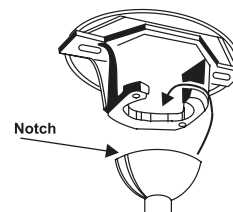

Figure 7
**Step 6.** Lift motor/housing assembly and place hanging ball onto hanger bracket. Rotate until the check groove has dropped into the notch of the hanging ball and seats firmly. ( Fig. 7)